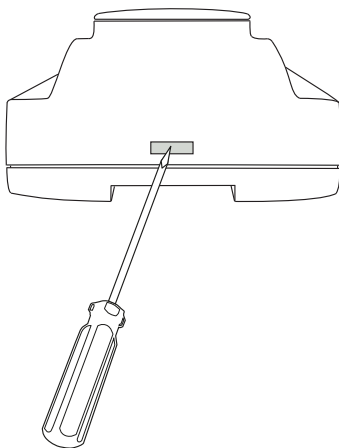

Figure 9-1 Removing the top of the casing.
2. Remove the top of the casing by pressing the two tabs on each side of the casing, see *Figure 9-1*, and then lift up the top of the casing carefully.